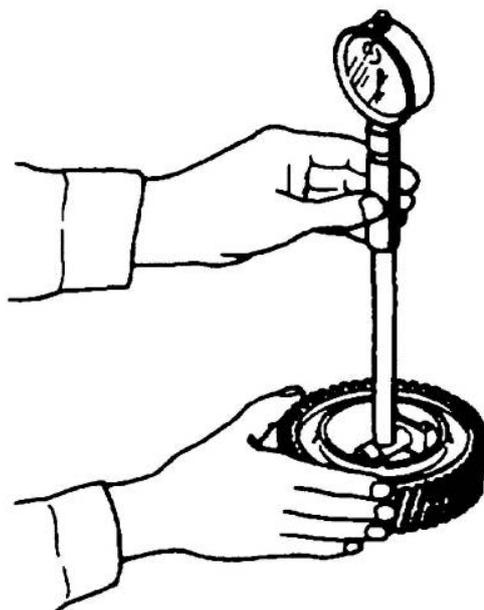

Figure 34 Measuring the Idle Gear
- z. If the idle gear shaft is within specification, measure the internal diameter of the idle gear (Figure 34). Subtract the shaft diameter from the gear diameter to obtain the running clearance. The standard clearance is 0.009 to 0.060 mm (0.00035 to 0.0024 in). If the running clearance exceeds the limit, or if the gear backlash (measured at disassembly) exceeds the limit, replace the idle gear.